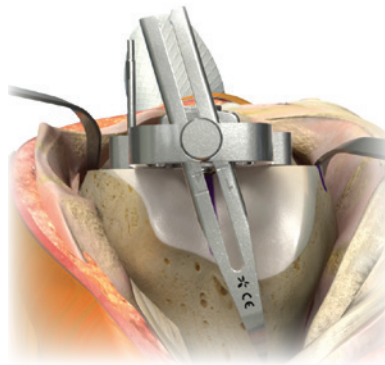

Figure 16d
- Slide the femoral stylus backward or forward so that the size indicated on the femoral stylus matches the femoral size indicated on the Femoral Sizer Guide. The point at which the femoral stylus contacts the bone marks the peak of the femoral anterior flange (Figure 16d).